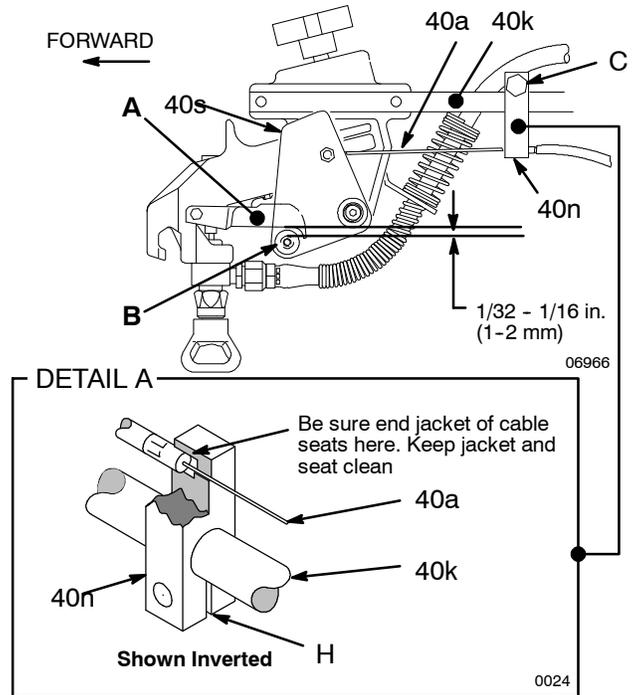

Fig. 6
To reduce the risk of an injection injury due to remotely triggering the gun by accident, always disengage the trigger cable from the block before handling the gun. See Fig. 6, DETAIL A, . **The gun will trigger briefly when releasing the cable!** Before you remove the gun from the holder, engage the gun trigger safety latch.
1. To disengage the cable, grasp the cable (40a) just behind the block (40n). Pull the cable back about 1/2 inch (13 mm) and then up and out of the block. **The gun will trigger briefly!** See Fig. 6.
2. To engage the cable, slide the cable (1) into the block (48), making sure the end of the cable jacket seats firmly in the seat of the block. **The gun will trigger briefly!** See Fig. 6.
Trigger Cable Tension Adjustment See Fig. 6
Do not allow the cable (40a) to rub against the outside edges of the slot (H) in the block (40n), to prevent premature wear of the cable. Rotate the block slightly to eliminate rubbing. See Fig. 6, DETAIL A.